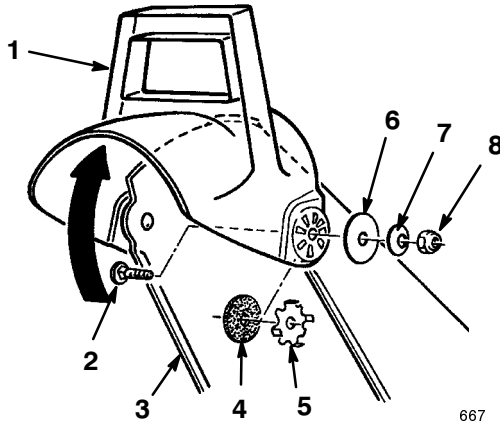

Figure 12
2. Secure the left side of the deflector to the discharge chute as shown in Figure 12.